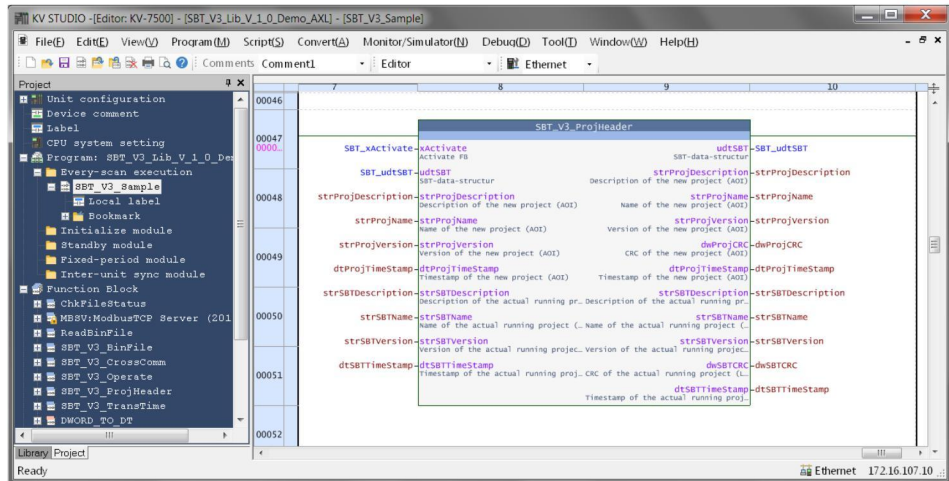

Figure 4-25 SBT\_V3\_ProjHeader function blocks
- Connect the function blocks as shown in Figure 4-25.